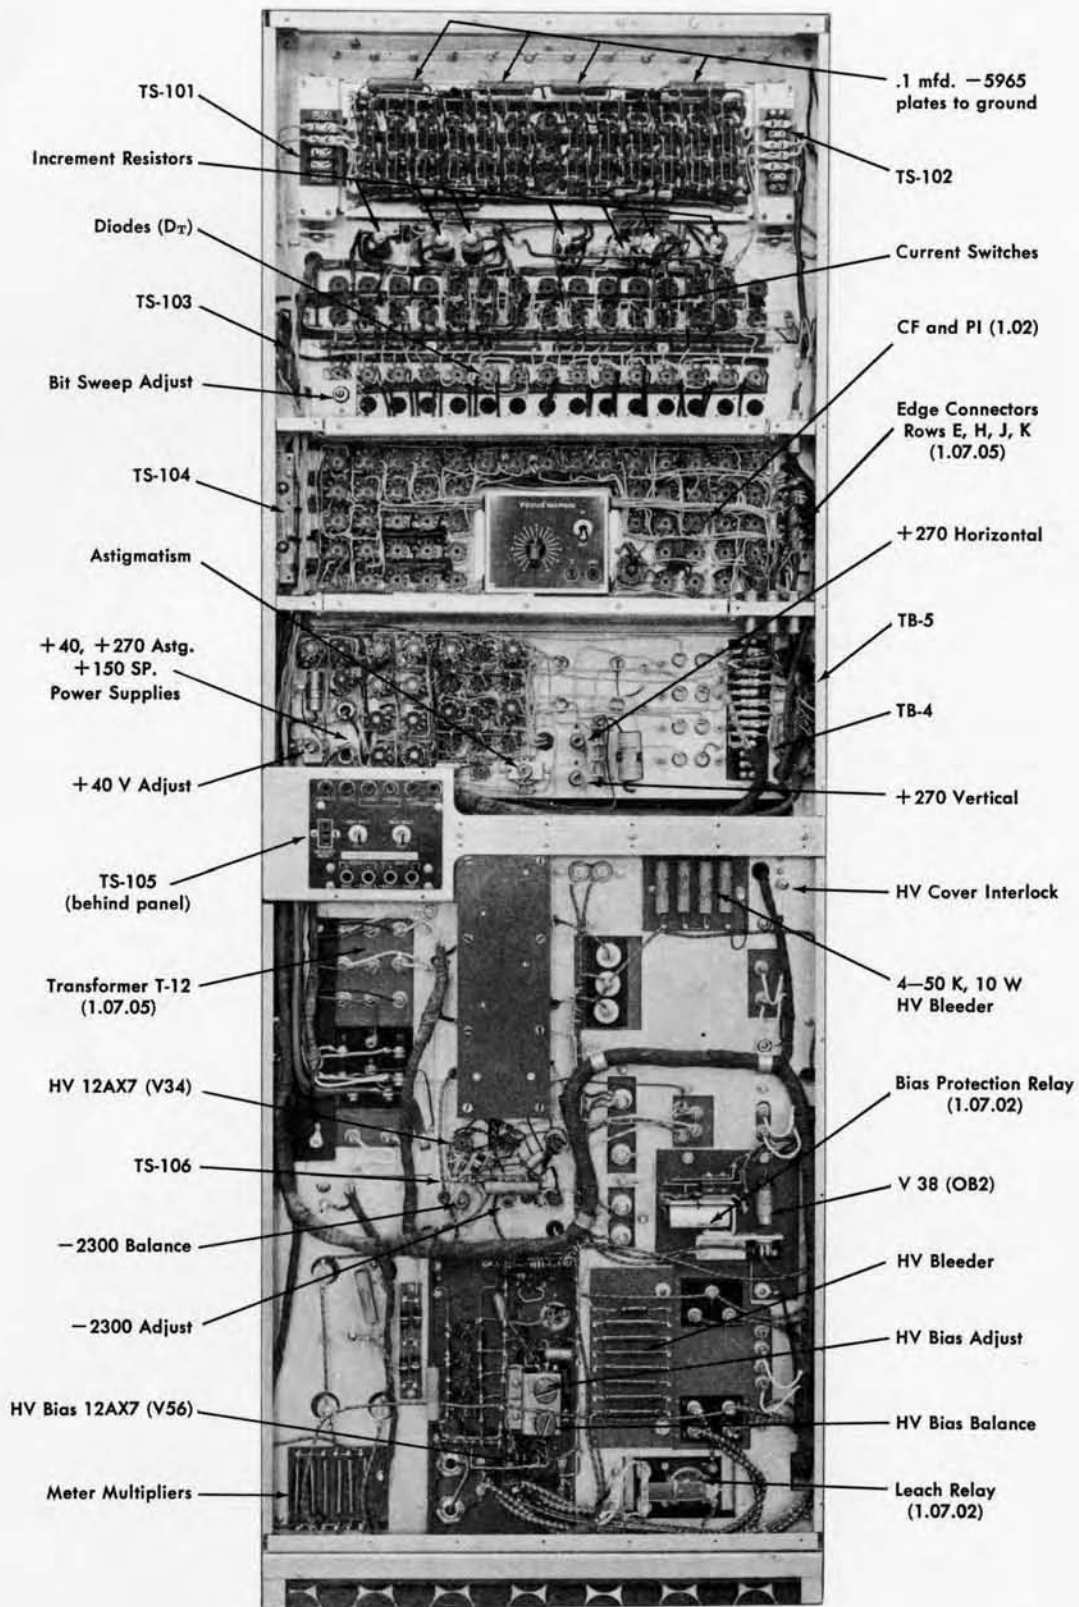

Figure 2 Rear of ESM Gate
Adjust the "+40 V Adjust" potentiometer (Fig. 2) so that the output voltage measures 40 volts at the test terminal which is labeled +30 V.
Adjust the potentiometer so that the output voltage measures 150 volts at the test terminal, Figure 2.
1. Adjust the "+450 Adjust" potentiometer so that the output voltage measures +400 volts at the test terminal labeled +400 V. (Fig. 2).
Adjust the potentiometer (Fig. 2) for +270 volts output measured at the test terminal.
Adjust the potentiometer for +270 volts output at the test terminal. (Fig. 2)
3. The astigmatism voltage adjustment potentiometer and the test terminal are located on the gate in the memory frame. See Figure 2.
9. Adjust the balance potentiometer for zero volts between the plates, pins 1 and 6, of the 12 AX 7 (Fig. 2). (V34) (Voltage across 807 must be 300 to 350 volts-vary Sola Taps)
6. Adjust the balance potentiometer for minimum voltage between the plates, pins 1 and 6, of the 12AX7. (V56) (Fig. 2)
4. Measure the bit sweep voltage on either horizontal deflection line. The left and right bit sweep voltages are of approximately equal amplitude and opposite polarity. Adjust the bit sweep adjust potentiometer (Fig. 2) so that the voltage is one volt at the end of dash time.